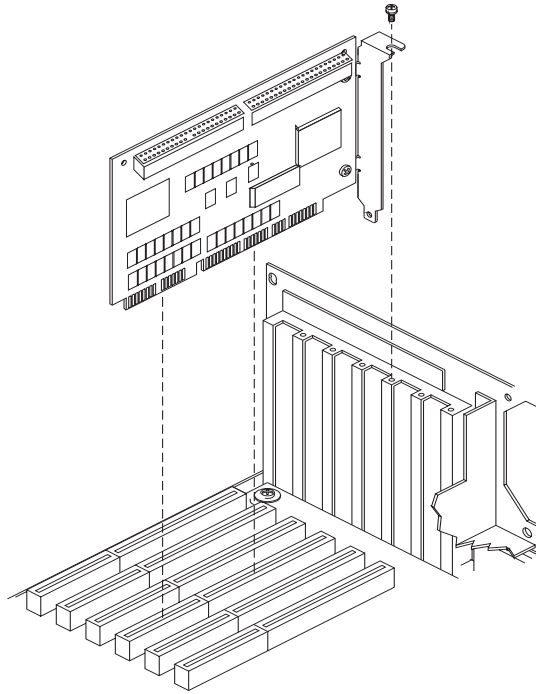

Figure 3-5. Inserting the Host Adapter in a Slot
- 6 Carefully press the bus connector on the bottom of the host adapter down into the slot, as shown in Figure 3-5, until the metal contacts on the bottom of the host adapter are securely seated in the slot.